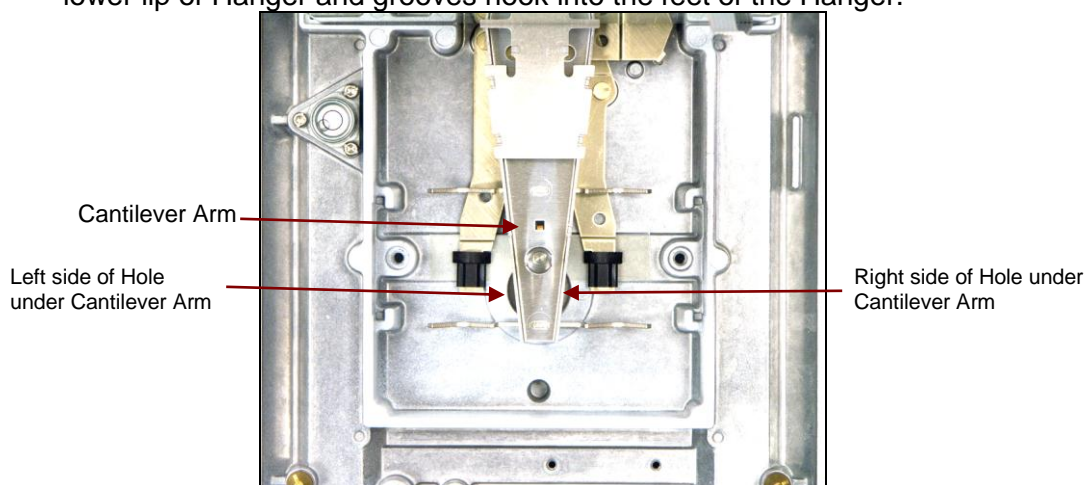

Figure 3-92. Cantilever Arm in correct position.
3. Make sure the Load Cell is properly aligned. The spaces of the hole underneath the left and the right of the Cantilever Arm should be equal. (See Figure 3-92.)